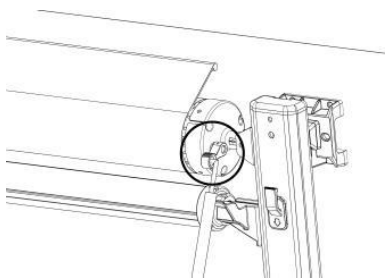

Figure D2
2. Use the pull wand to gently turn the ratchet lever to the OPEN position. (Figure D2)